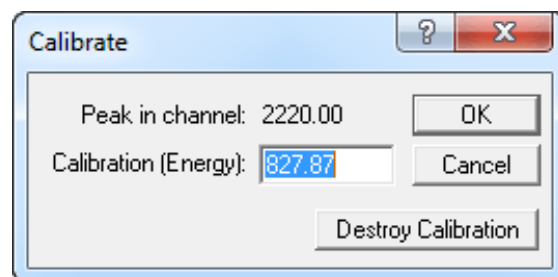
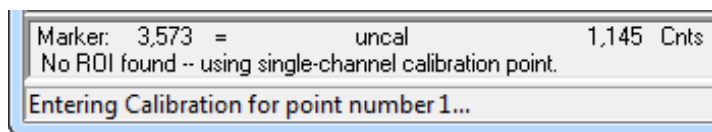

Fig. 56. The Calibrate Dialog.
Fig. 57. Calibration with No ROI
The Calibrate dialog (Fig. 56) is used to establish a multi-point calibration for the data memory such that channel position and peak parameters are reported in the specified units as well as channels. If two points are entered, a linear calibration is done. If three or more points are entered, a quadratic fit to the entered points (up to 96 points) is automatically performed. The default units are **keV** but can be any units you supply, as discussed in Section 4.3.2.2. The peak shape is measured and stored for later use in functions such as marking ROIs.
- Select **Calculate/Calibration...** to choose the marked peak and calculate the centroid of the peak. If there is an ROI at the marker and the marked peak is good (that is, if it can be used in the calculation), the program will ask for the energy of the peak (see Fig. 56). If there is no ROI at the marker, a warning will appear at the bottom of the screen (see Fig. 57), and the marker channel will be used instead of the peak centroid.